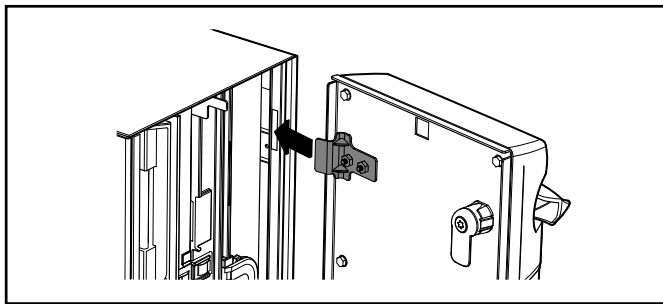

Figure 12 Aligning door tabs
**Step 1:** Hold door so that tabs are aligned with slots in cabinet as shown in Figure 12.